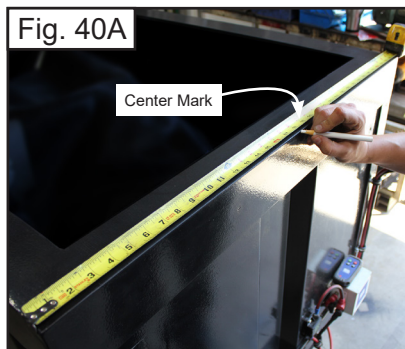
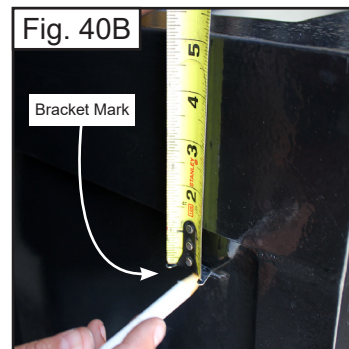

Fig. 40A
Fig. 40B
Step 3: Measure the width of the box and mark the center to help determine the placement of the Tray (Fig. 40A). Also, mark 5 inches down from the top of the box and about 3-5 inches from each side of the box (Fig. 40B).